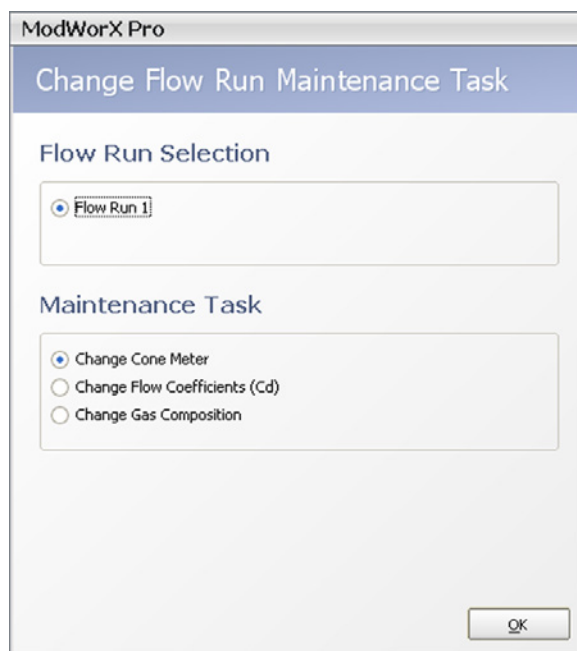

Figure 10.2
2. Click **Yes** at the Enter Maintenance Mode prompt. The Change Flow Run Maintenance Task screen will appear (Figure 10.2, page 144).